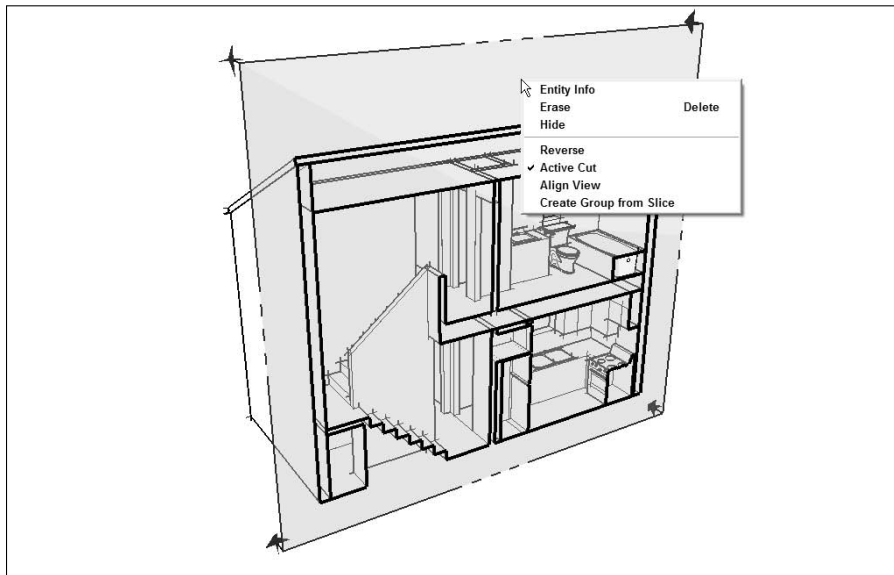

Figure 10-14: Right-clicking a section plane gives you some options.
You can control the way section planes behave by right-clicking them to bring up a context menu that looks like the one shown in Figure 10-14. I show examples of what the following options do in the same illustration:
- ✓ **Section Planes:** This choice toggles the visibility of section-plane objects without affecting the section cuts they produce. More simply, deselecting Section Planes hides all the section planes in your model, but doesn't turn off the section cut effect, as shown in the middle image in Figure 10-14. This is how you'll probably want to show most of your sectional views, so this is a pretty important toggle.